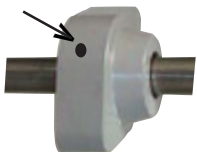

Fig 16-2
2. Drill a small hole through the wall of the Glove® cover and into the edge of the base. See Fig 16-2.